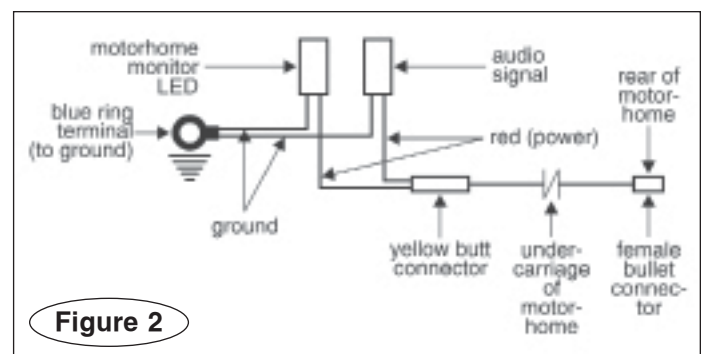

Figure 2
8. With one or more wire ties, attach the audio signal circuit board (Figure 2) to the underside of the dash, as close to the LED as possible.
9. Connect the monitor LED, audio signal circuit board and the black wire from the rear of the motorhome as shown in Figure 2.